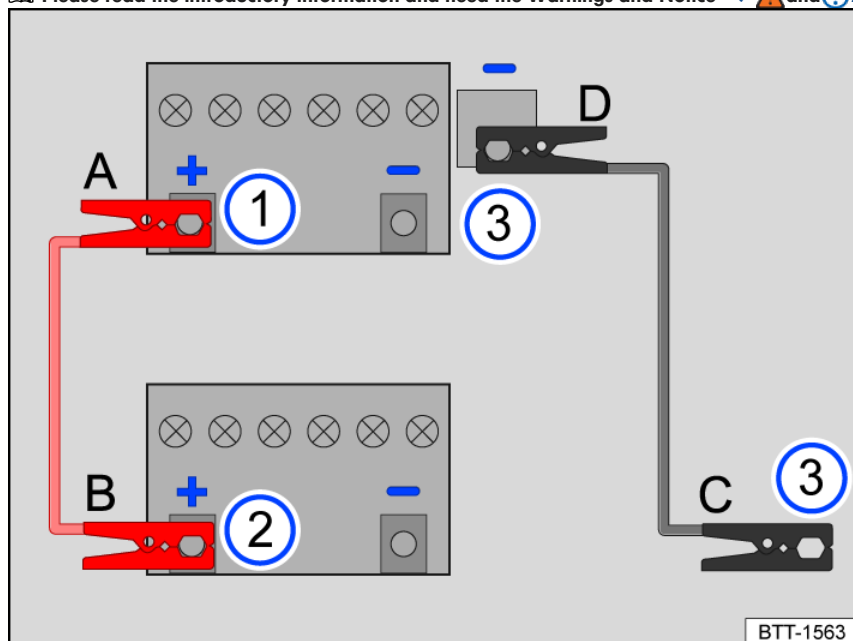

Fig. 180 Diagram for connecting the jumper cables.
Only connect the jumper cables in the sequence **A – B – C – D** fig. 180.
- Connect one end of the *red* jumper cable **A** to the positive battery terminal + of the vehicle battery with the discharged 12-volt vehicle battery fig. 180 ① ⇒
- Connect the other end of the *red* jumper cable **B** to the positive battery terminal + of the vehicle supplying the power fig. 180 ②.
- Connect one end of the *black* jumper cable **C** preferably to a jump-start point (negative connection), otherwise to a large metal part that is bolted securely to the cylinder block or to the cylinder block itself of the vehicle supplying the power fig. 180 ③.
- Connect the other end of the *black* jumper cable **D** for the vehicle with the discharged 12-volt vehicle battery preferably to the jump-start point (negative connection), otherwise to a large metal part that is bolted securely to the cylinder block or to the cylinder block itself fig. 180 ③ ⇒ ⚠️.
3. With the engines running, disconnect the jumper cables only in the sequence **D – C – B – A** *fig. 180*.